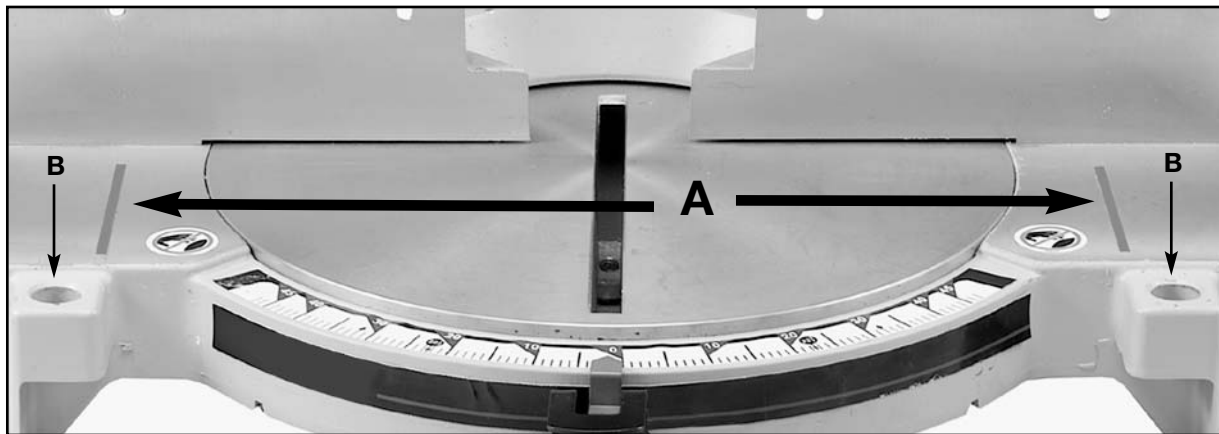

Fig. 8
⚠ WARNING The area inside the two red lines (A) Fig. 8 on the table is designated as a hazard zone. Never place your hands inside this area while the tool is being operated.
2. Two holes (B) Figs. 8 and 9 are provided in the base of the miter saw enabling you to use the clamp (A) on either the right or left hand side of the saw blade.